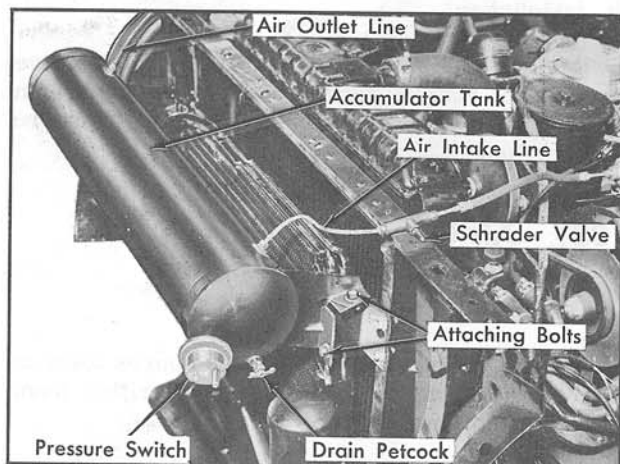

Fig. 4-16 Accumulator Tank Connections
3. Release air pressure in accumulator tank by opening pet cock at lower left side of tank, Fig. 4-16.